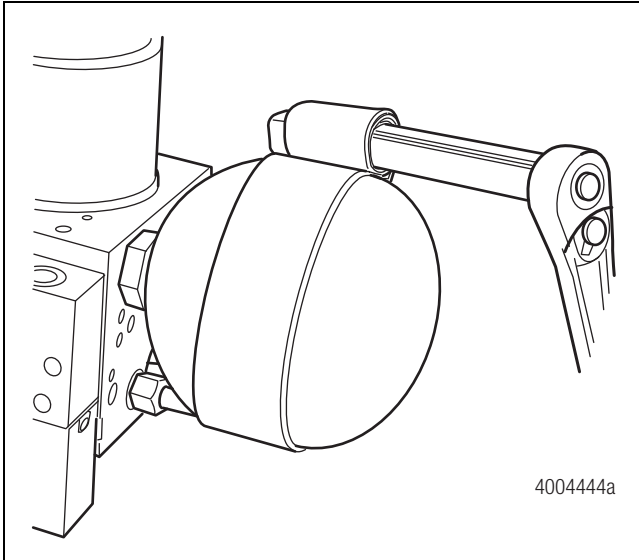

Figure 4.15
8. Use a strap wrench to remove the accumulator. The accumulator has a right-hand thread. Figure 4.15.